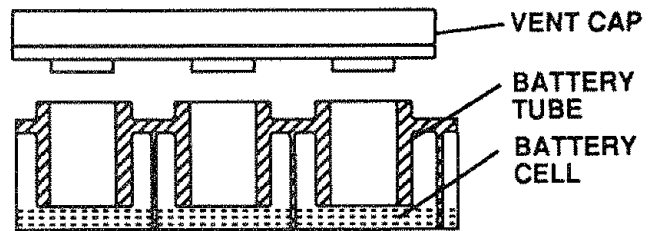

FIGURE 1
- b. Fill battery with battery acid to bottoms of tubes in cells (Fig 1). DO NOT OVERFILL. OVERFILLING WILL RESULT IN DAMAGE TO TRACTOR.